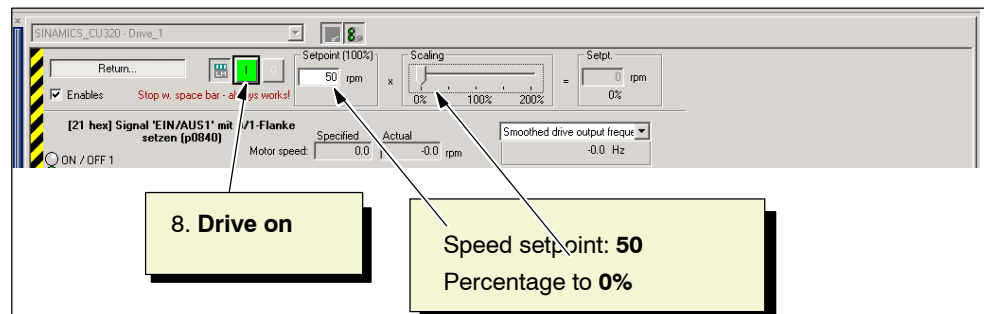

Fig. 4-11 Control panel before “Drive on”
7. Before starting the motor by choosing **Motor on** (see Fig. 4-11), you have to make the following settings: